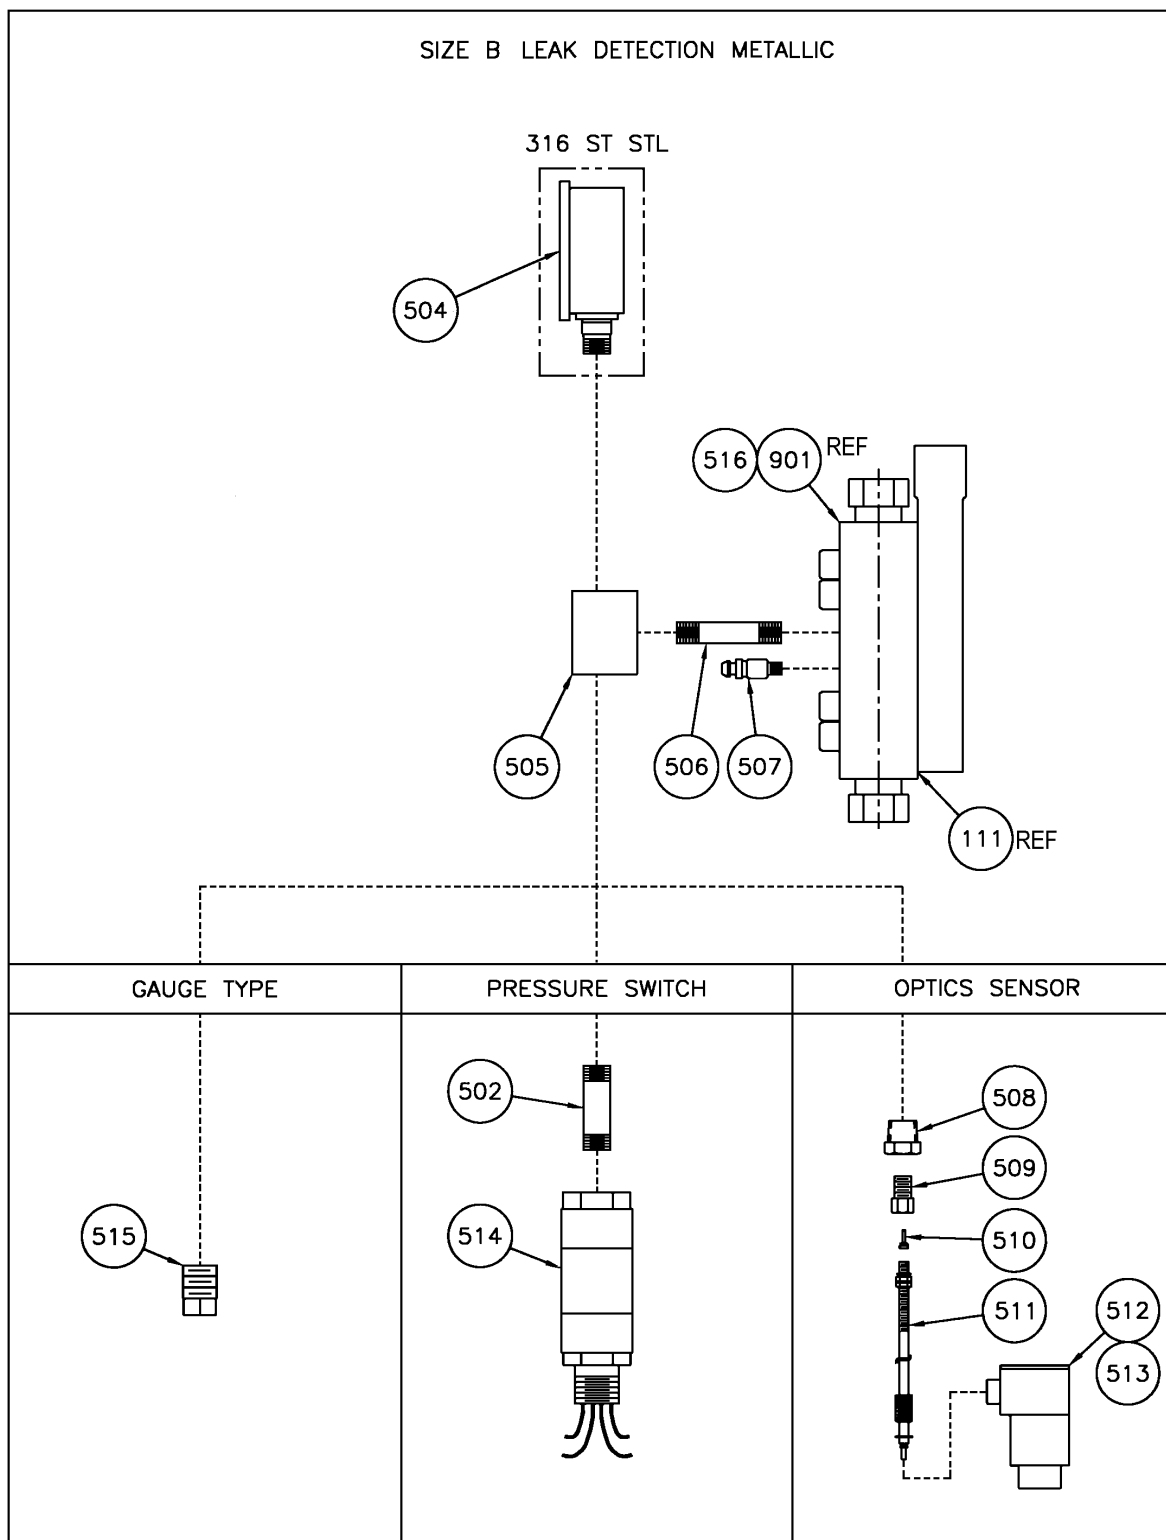

Figure 51. Metallic Leak Detection, Size B and C.
6.17 METALLIC LEAK DETECTION, SIZE B & C (316SS, ALLOY 20 & HAST C) (FIGURE 51)